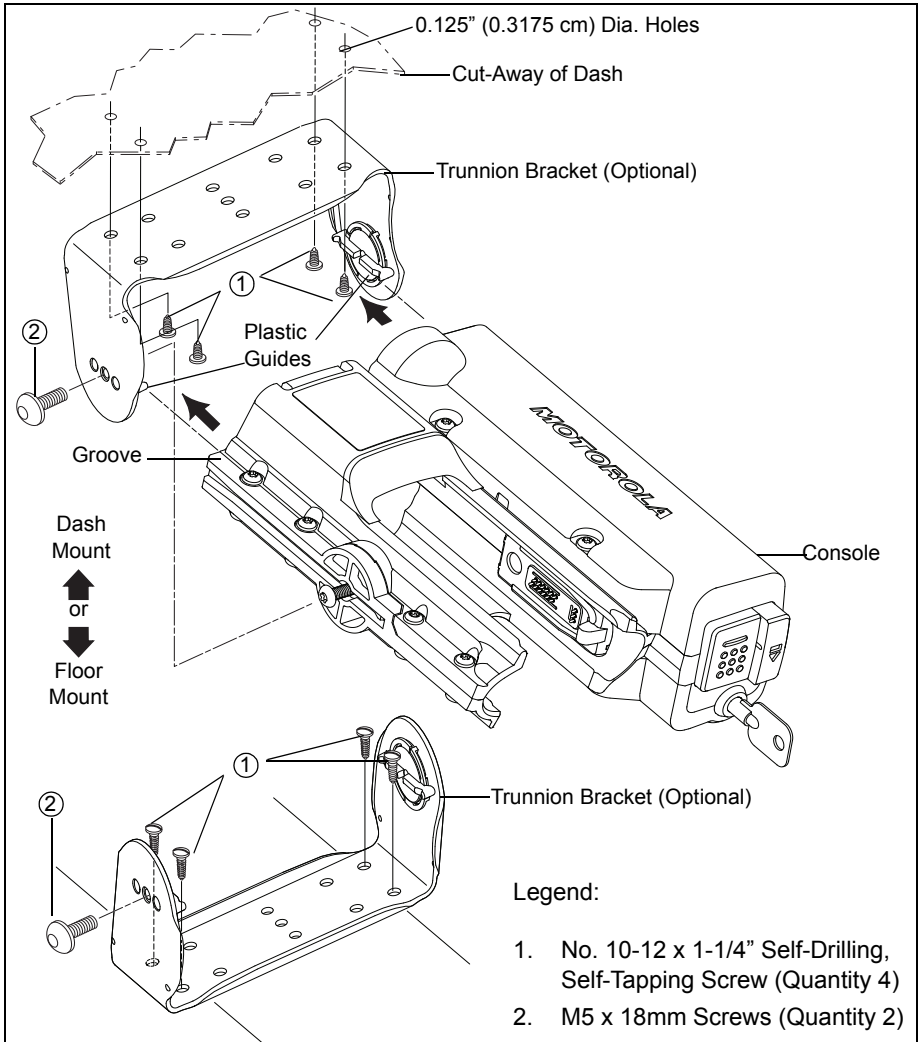

Figure 1: Console Installation Detail
Referring to Figure 1, install the console using the following procedure, or modify the procedure as necessary to conform to the vehicle type. Using the optional trunnion (“U”) bracket as a template, drill the mounting holes and mount the bracket with the hardware supplied (see Figure 1).
2. Ensure that the plastic guides of the trunnion are aligned (horizontally) with the corresponding grooves of the console (see Figure 1). Slide the APX VA console into the plastic guides until it reaches the mechanical stop. Verify that the holes in the trunnion bracket are aligned with the holes on the APX VA.